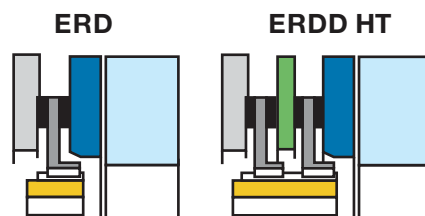

Fig. 1
**WATCH OUT !** Respect obligatory the direction of the hub when mounting (see fig. 1 below)